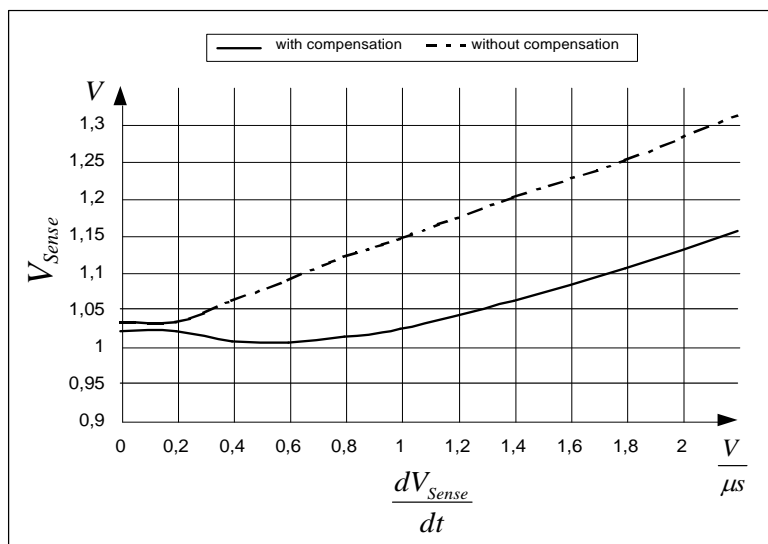

Figure 12 Propagation delay compensation curve
The maximum power of the system is changed with the input voltage; higher voltage got higher maximum power. This is due to the propagation delay of the IC and the different rise time of the primary current under different input voltage. The propagation delay time is around 200ns. But if the primary current rise time is faster, the maximum power will increase. The power difference can be as high as >14% between high line and low line. In order to make the maximum power control become tight, a propagation delay compensation network is implemented so that the power difference is greatly reduced to best around 2%. Figure 14 shows the compensation scheme of the IC. The equation (10) explains the rate of change of the current sense voltage is directly proportional to the input voltage and current sense resistor. For a DCM operation, the operating range for the dV_{sense}/dt is from 0.1 to 0.7. It can show in Figure 12 that higher dV_{sense}/dt will give more compensation; i.e. lower value of V_{sense} .